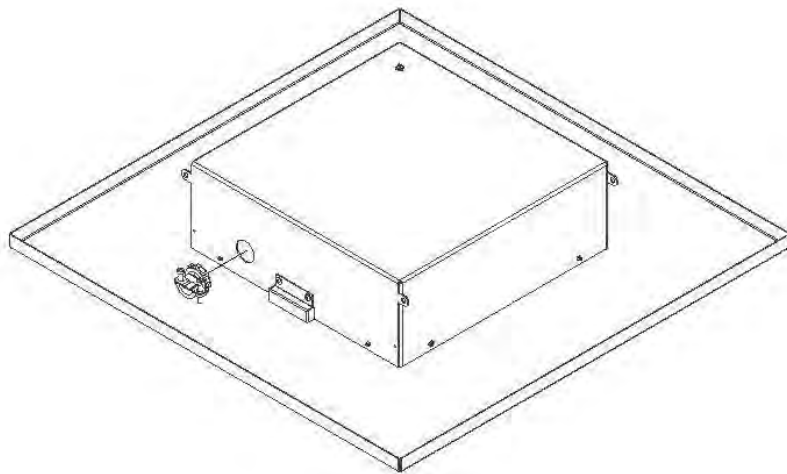

Figure 1
**Step 1** – Place the *ceiling enclosure assembly* on the work surface with the keyed doorway unlocked. Remove hole knock outs located on the outside edge of the back box to install conduit connectors. Install one conduit connector if using P.O.E. or install 2 conduit connectors if bringing in power and Ethernet and power separately (Figure 1).